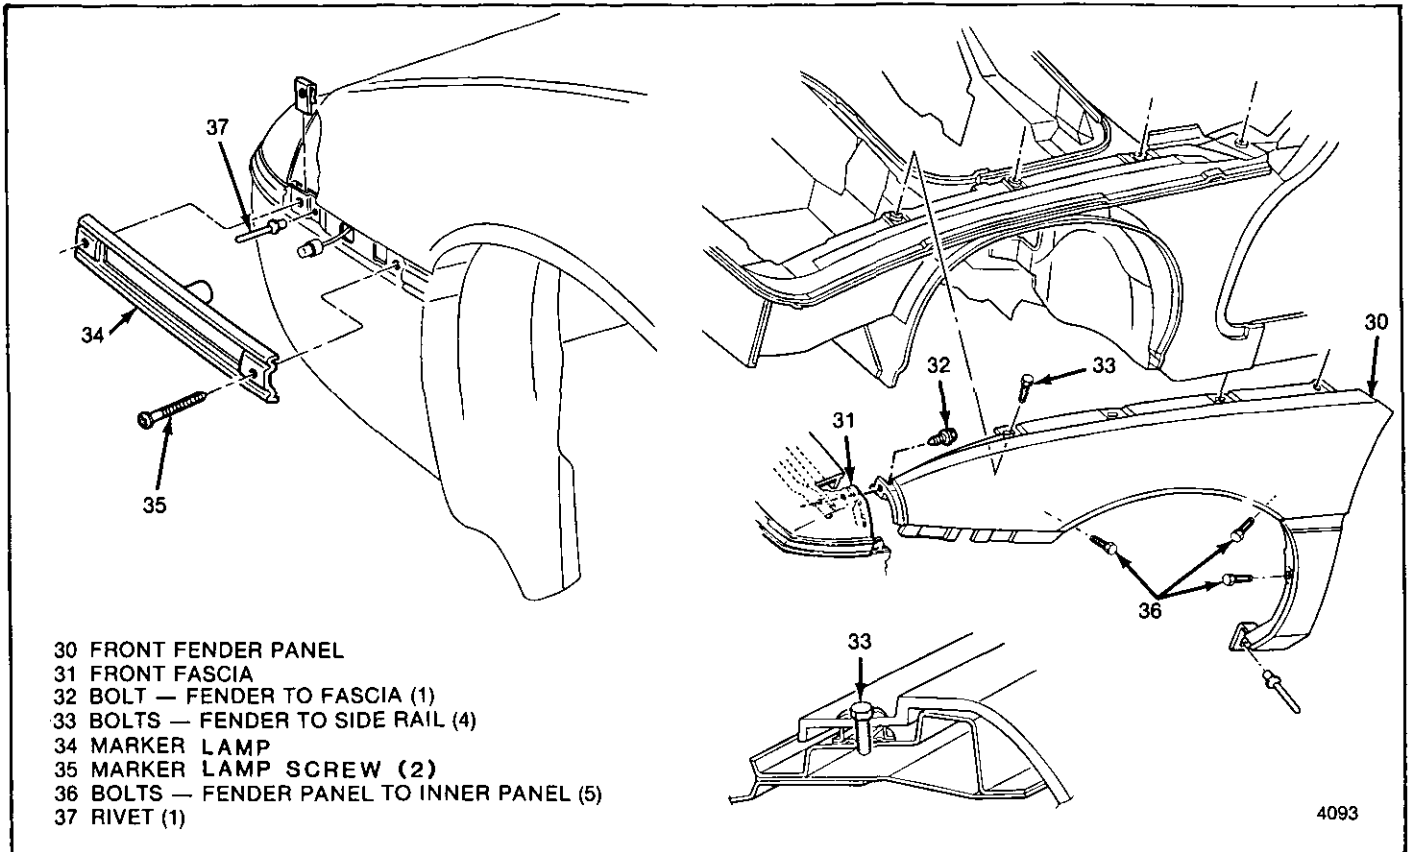

Fig. 7-Front Fender Panel Attachment
↔ Remove or Disconnect (Figure 7)
↔ Install or Connect (Figure 7)
1. Six screws at chassis (44)
2. Side marker lamp assemblies (34, Fig. 7)
- Inner wheelwell to fascia (40)
- Fascia support (45)
4. Fascia (31)